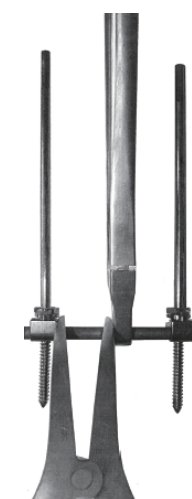

Fig.4b
- (1) First plate drive socket wrench to open the leading edge.
- (2) the socket wrench clockwise to lock sleeve chucks.
- After anterior distraction is completed, a parallel distraction operation is performed in conjunction with the turn pliers to restore vertebral height and reduce pressure on the disc (Fig. 4b).